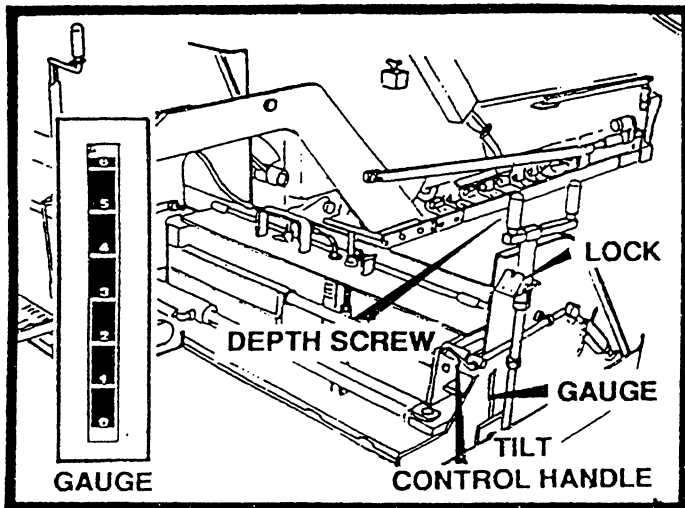

FIGURE 33
1. On first pass unlock depth screws and lower endgate to about 1/4" off desired depth. This should provide a nice square edge. See figure 33.